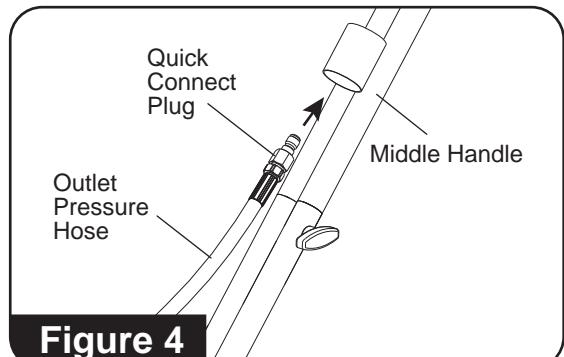

Figure 4
4. Take the outlet pressure hose, and starting with the quick connect plug end slide it through the bottom of the guide tube on the front of middle handle assembly. **(See Figure 4)**